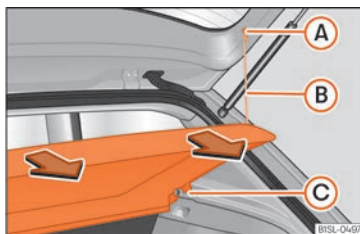

Fig. 95 In the boot: removing and installing the shelf.
- Detach the cord loops »» Fig. 95 (A) from their hooks (A).
- Unclip the shelf from the side supports (C) by pulling it up and removing the shelf.